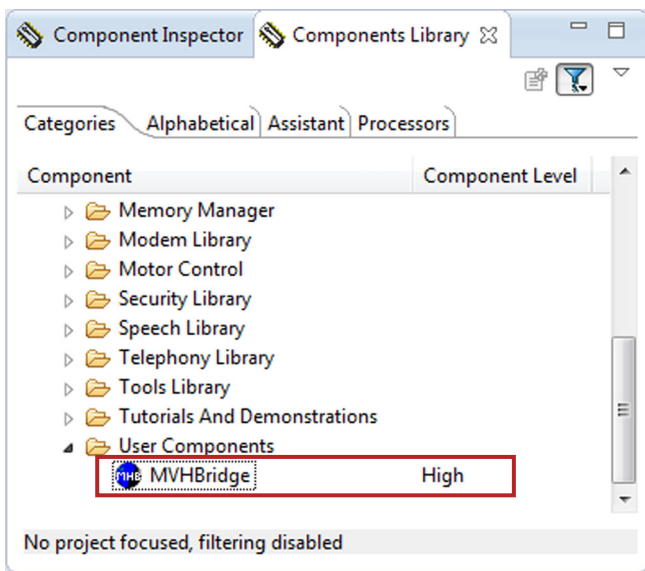

Figure 28. MVHBridge Component Location after CodeWarrior Import
4. If the import is successful, the MVHBridge component appears in **Components Library -> SW -> User Component** (see Figure 28). The MVHBridge component is ready to use.